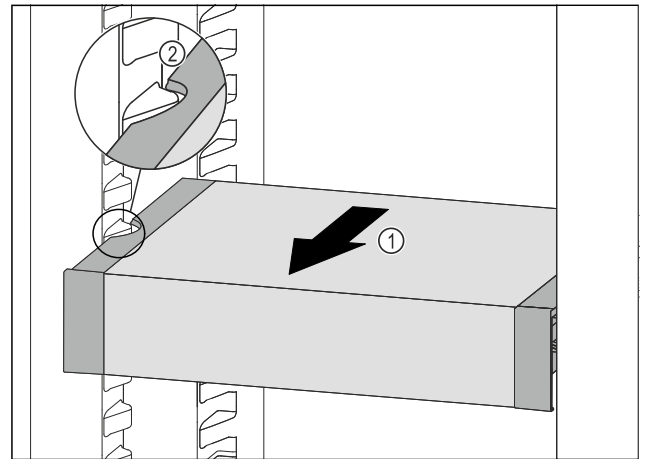

Fig. 199
- Pull VarioSafe forwards *Fig. 199 (1)* until the recesses in the side of the VarioSafe are at the level of the support rib in the fridge section. *Fig. 199 (2)*